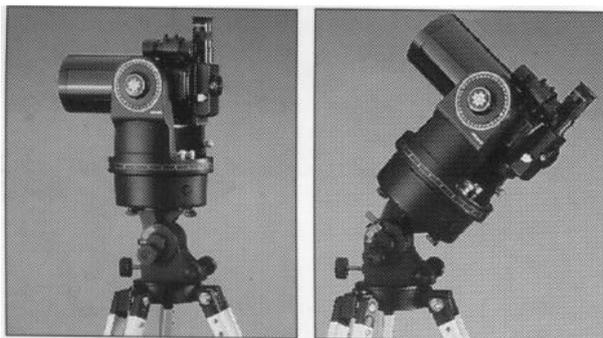

Fig. 3. (left) The ETX Astro Telescope on Field Tripod oriented for land viewing; (right) The polar-aligned ETX, ready for astronomical viewing.
**Note:** By following the procedures listed above, the ETX telescope is polar aligned for most celestial observing applications. See Figure 3. Approximate polar alignment is sufficient in the great majority of these applications. Do *not allow a time-consuming effort at precise polar alignment to interfere with your basic enjoyment of the telescope, as such precise alignment is, in general, not required.*
In land viewing applications, the three legs of the Field Tripod may be positioned in an arbitrary orientation. The telescope mounting, however, should be placed in a horizontal position: (Fig. 3) by turning the fine latitude adjustment knob (4) Fig. 1 to read 90° unlocking and re-locking the latitude lock knob (10), Fig. 1, to accomplish this adjustment. The ETX's motor drive should be turned off in terrestrial applications. Use the telescope's R.A. and Dec slow-motion controls for fine motion in horizontal and vertical.